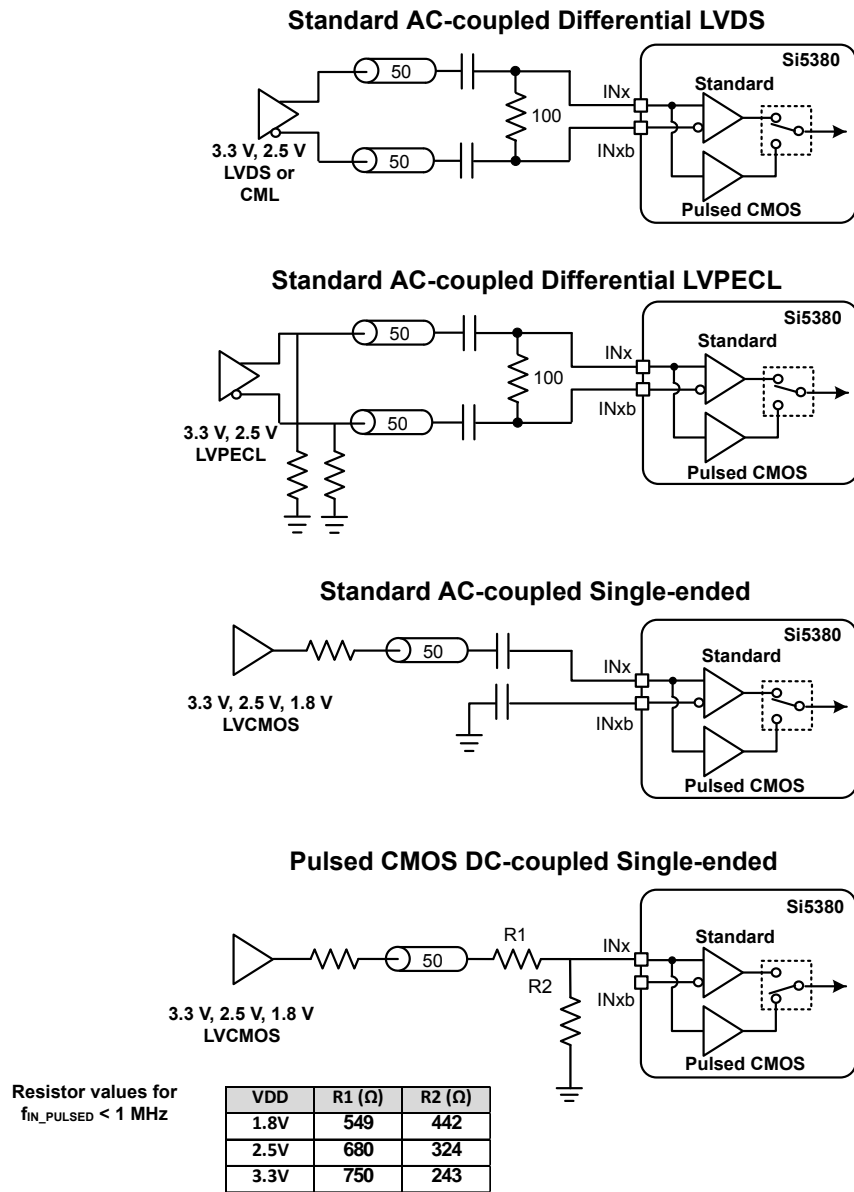

Figure 4.2. Termination of Differential and LVCMOS Input Signals
2. Creates HCSL compatible signals, see HCSL receiver biasing network in Figure 4.2 Termination of Differential and LVCMOS Input Signals on page 36.